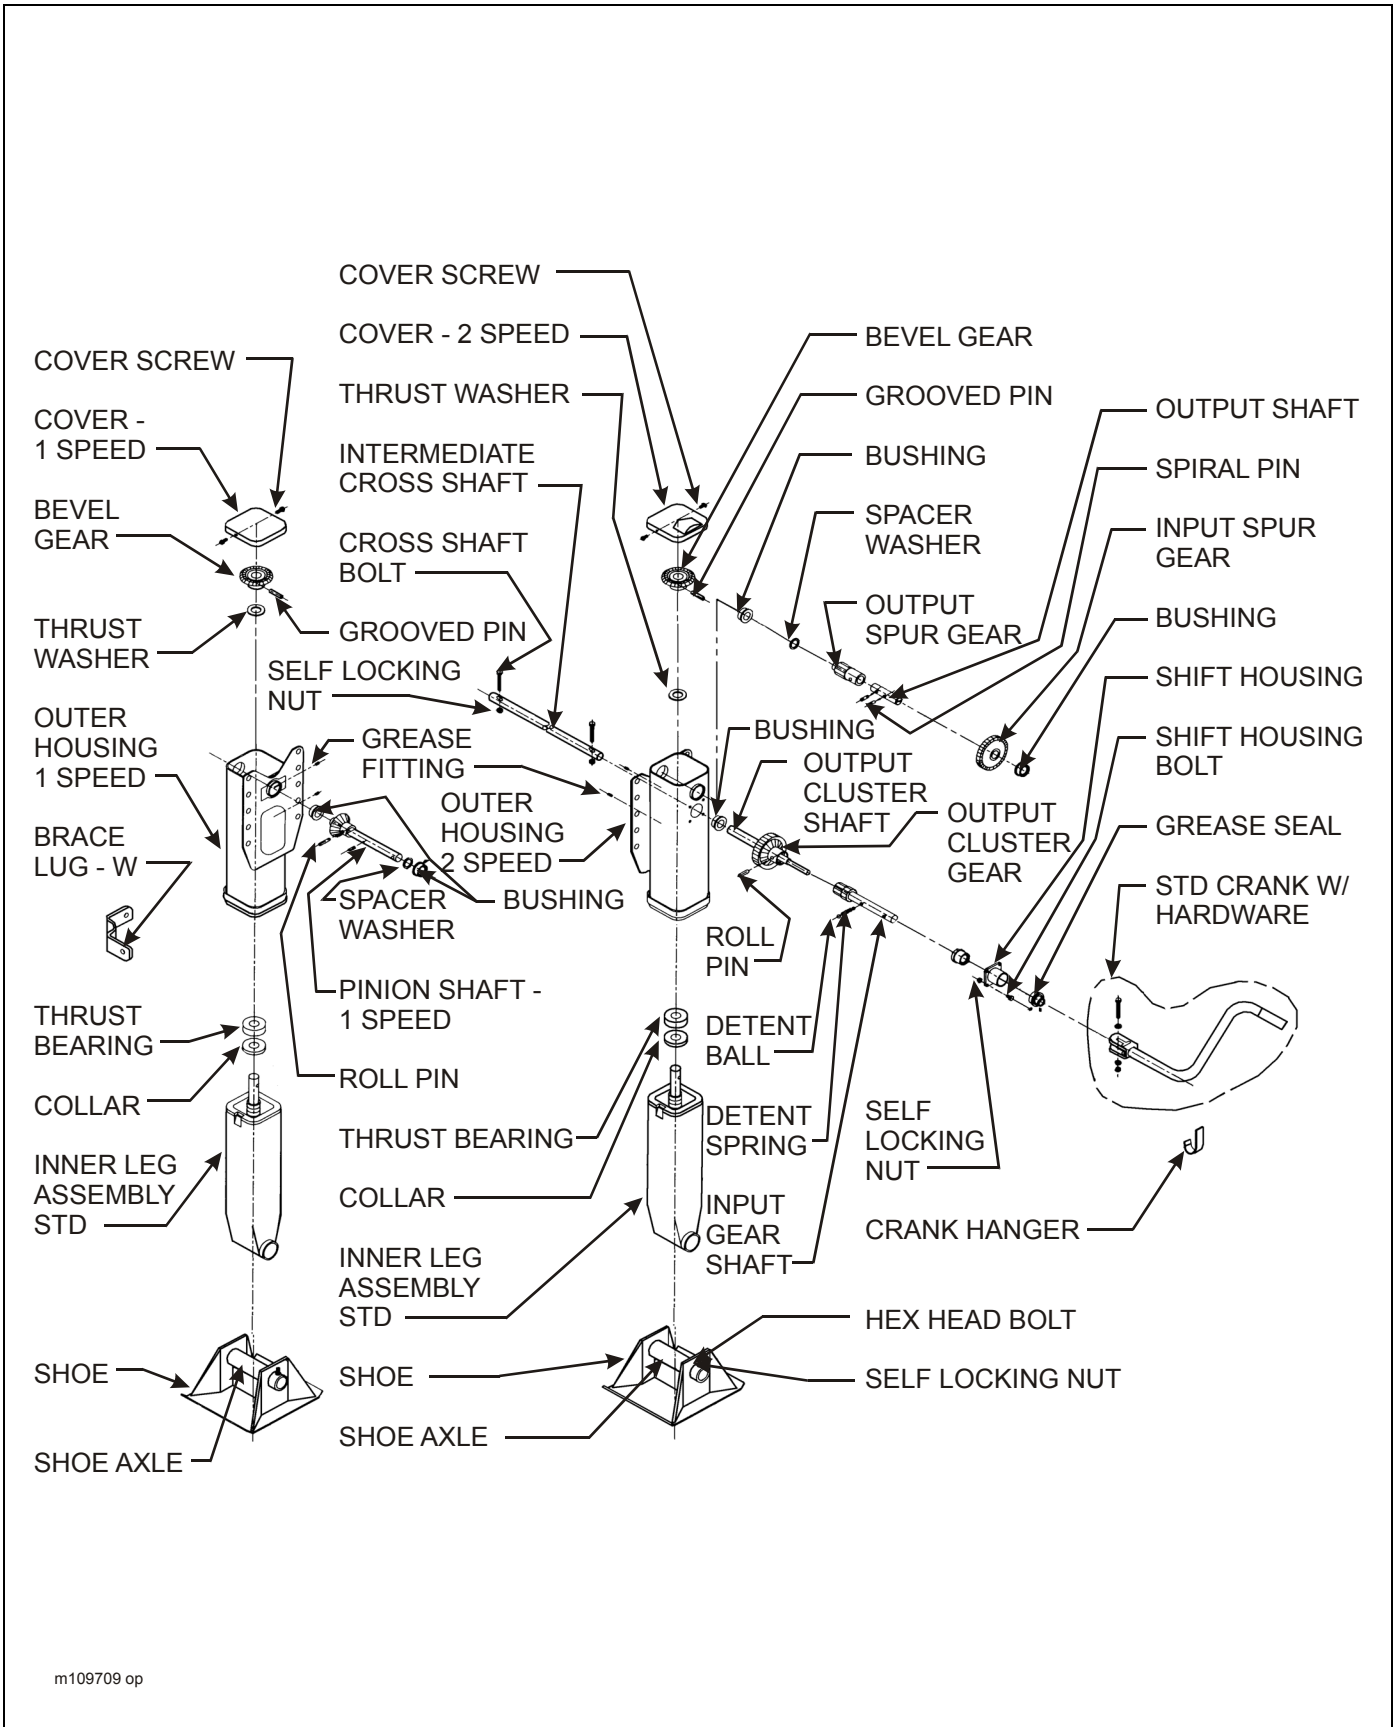

Figure 4-23: Crank Landing Gear Assembly
2. The elevating screw is lubricated by the lower grease fitting located on the upper housing (**See Figure 4-23.**) Prior to lubrication, extend the landing gear as far as possible. During lubrication, slowly retract the landing gear. The upper grease fitting lubricates the gearing, shafts, and bushings. It is recommended to use a high quality commercial grade lithium EP-2 grease.